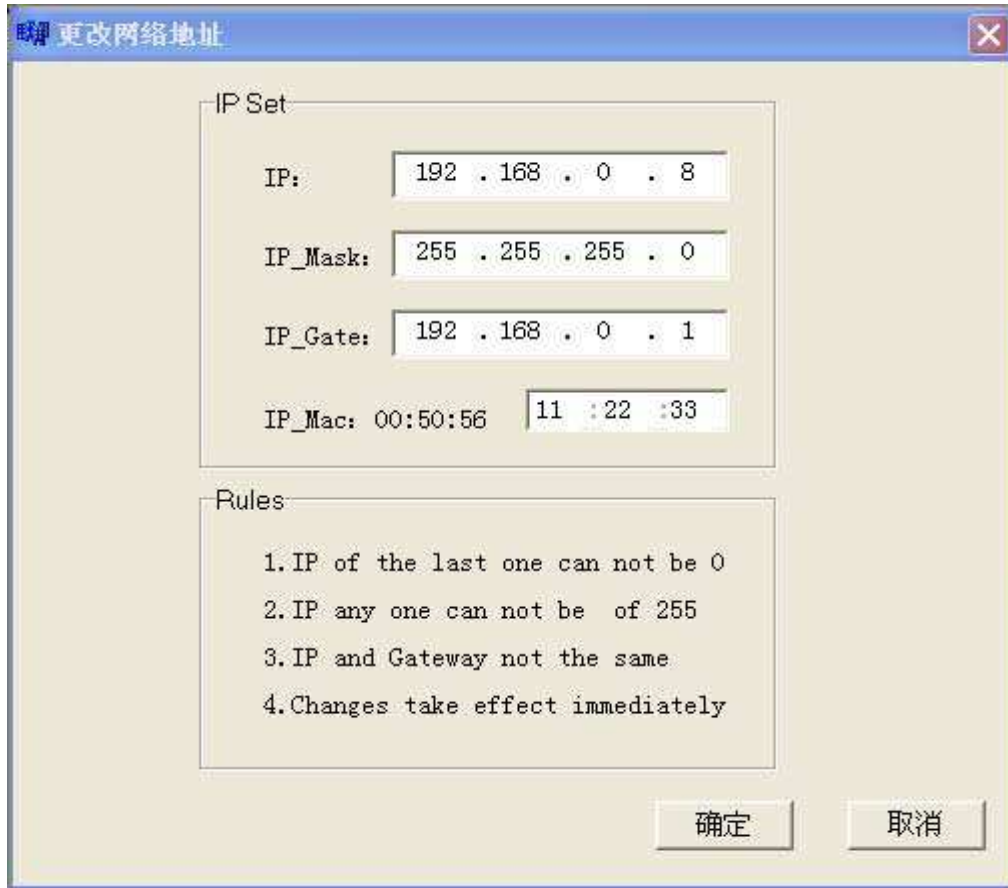

Figure 3
- ✧ [Reset IP Address]: Change IP address, subnet mask, gateway and MAC address of the selected DT-IPC in the IP list of IP table. IP address could be changed as follows (Figure 3):